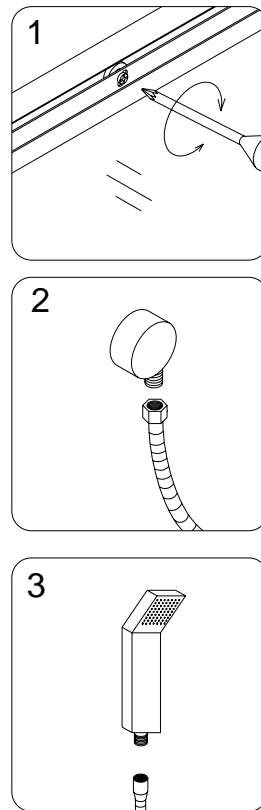

Fig. 19
25. Connect the **Shower hose (27)** to the water outlet on the control panel and then connect the **Hand shower (26)** to the shower hose. See Fig 19 for details.